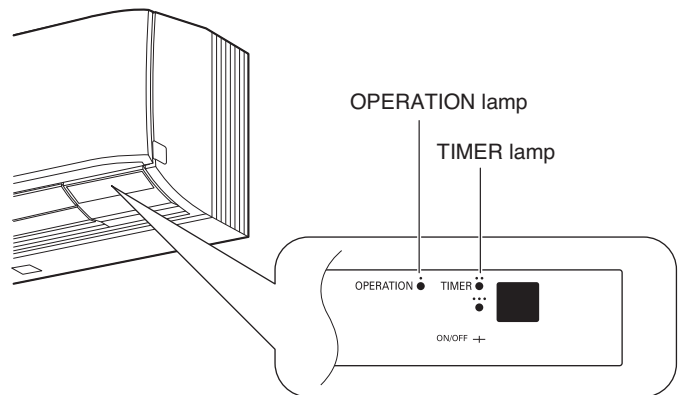

Fig. 13
- This starts the fan producing uncooled forced air with the 3 indicator lamps (OPERATION lamp, TIMER lamp, and ●) on the main unit blinking. (Fig. 13)